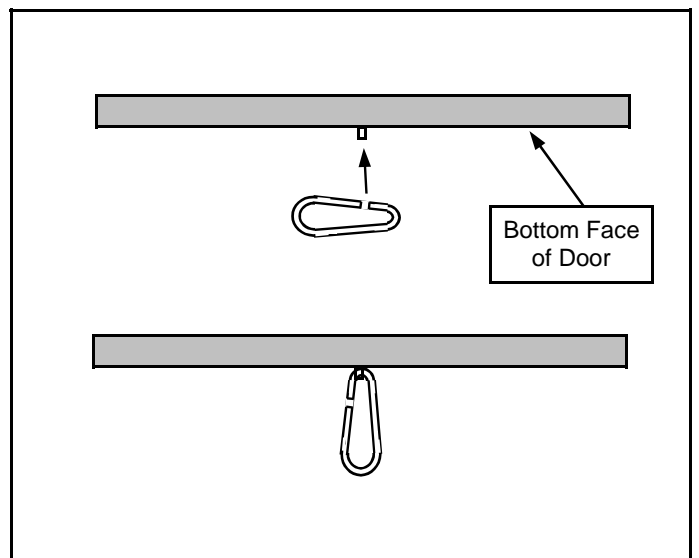

Figure 12
5. Insert door opening ring into eyelet on face of door. Figure 12